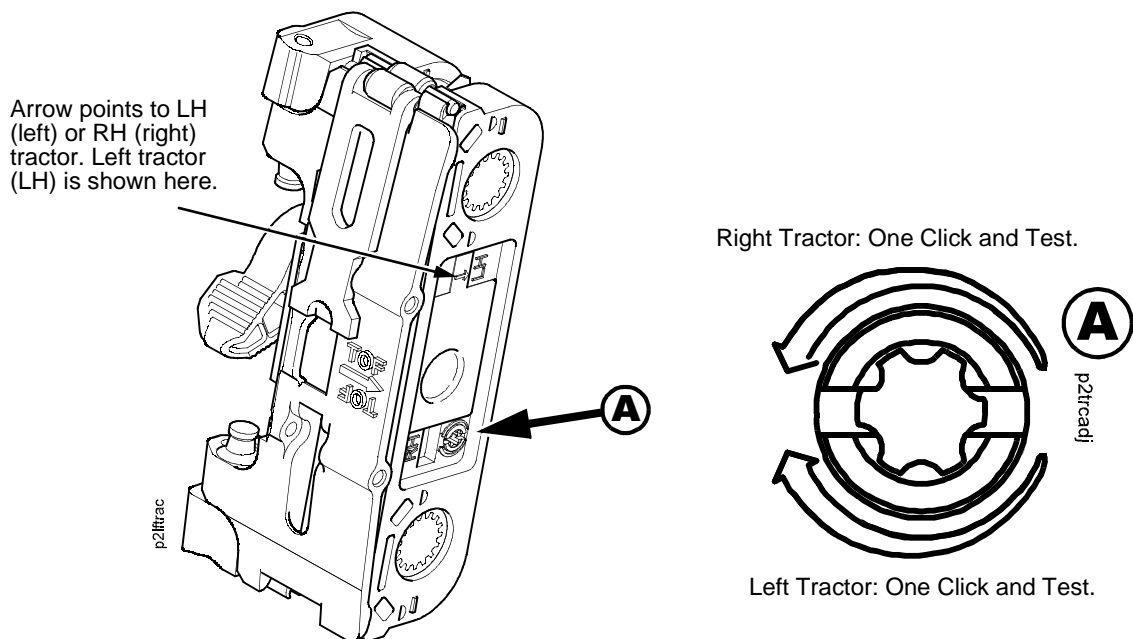

Figure 21. Tractor Belt Tension Adjustment
3. Carefully note the initial position of the adjustment screws. (See Figure 21.)
4. On the inner side of the left tractor, use a Torx T-10 driver to rotate the adjustment screw one detent to increase tension. On the inner side of the right tractor, use a Torx T-10 driver to rotate the adjustment screw one detent to increase tension. (See Figure 21.)